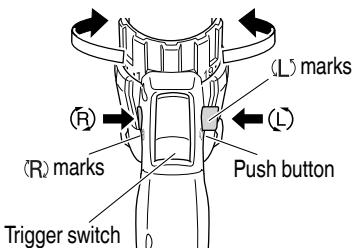

Fig. 9
The L-side of the push button is pushed to turn the bit counterclockwise (See Fig. 9). (The (L) and (R) marks are provided on the body.)